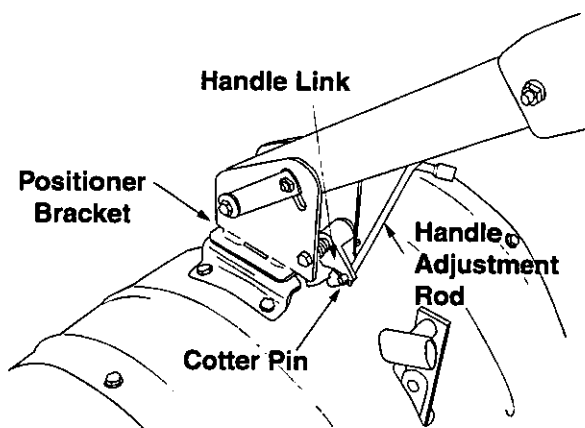

Figure 13
2. With the handle adjustment rod beneath the handle assembly, insert the hooked end of handle adjustment rod into the handle link, from right hand outside in, as shown in Figure 13. Secure with cotter pin, bending ends of pin in opposite directions.